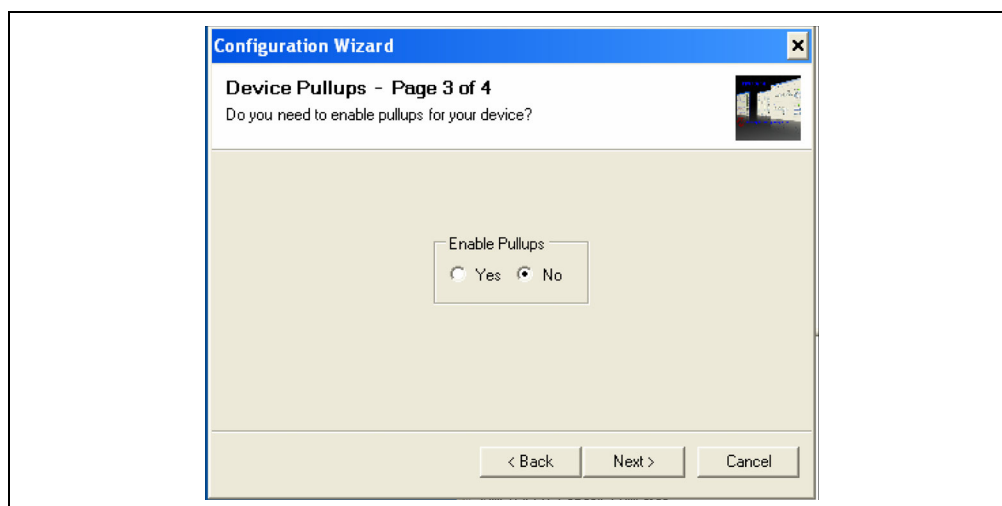

FIGURE 2-5: Device Pull-ups Window.
6. Select **No**, as shown in Figure 2-5, then click the **Next** button.